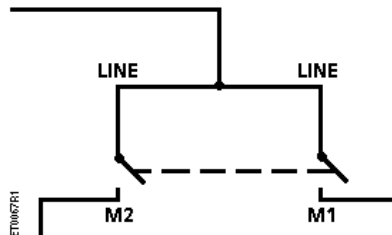

Figure 2. Wiring Diagram.
- See Figure 2 for typical wiring diagram.